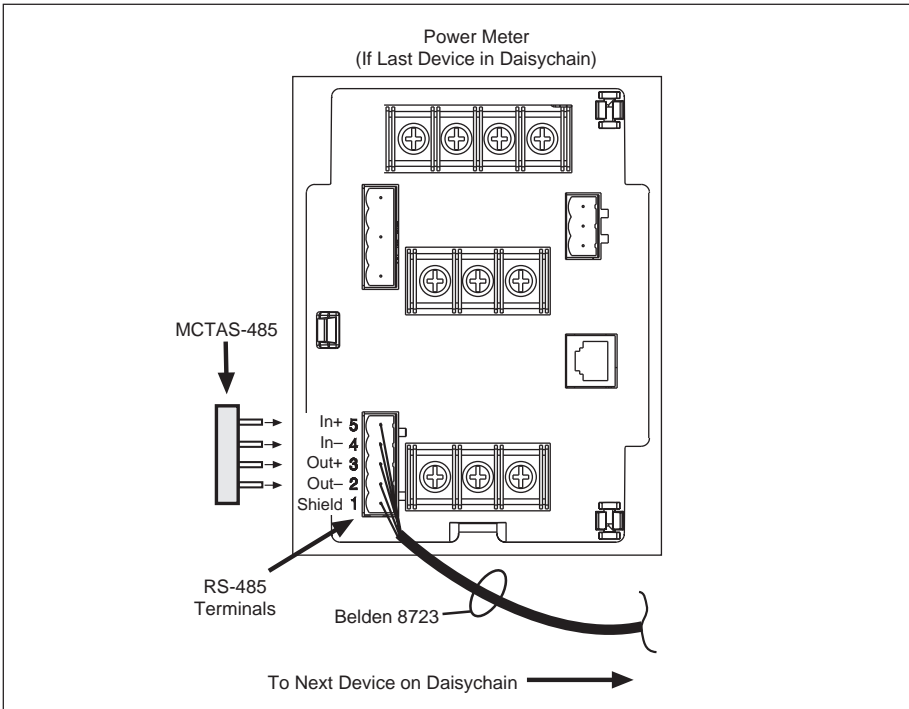

Figure 6-7: Terminating power meter with MCTAS-485
- MCTAS-485. This terminator plugs directly into the power meter communications port (RS-485 terminals in figure 6-7 below).